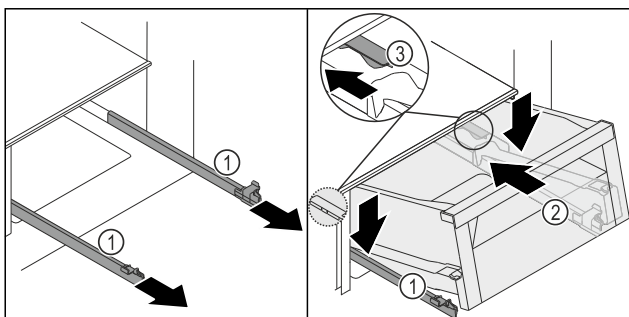
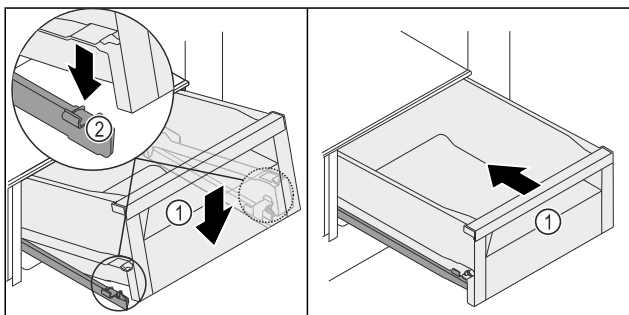

Fig. 95
Fig. 96
- ▶ Hold the rails Fig. 95 (1) firmly and place the drawer Fig. 95 (2) on the rails Fig. 95 (1) from above behind the stopper Fig. 95 (3).
- ▶ Slide the drawer Fig. 95 (2) backwards on the rails Fig. 95 (1) as far as it will go.
- ▶ Lower the drawer Fig. 95 (2) at the front so that the drawer slides into the clamp Fig. 96 (2) on the left and right.
- ▶ The drawer Fig. 96 (1) locks in audibly.
- ▶ Push in the drawer Fig. 96 (1).